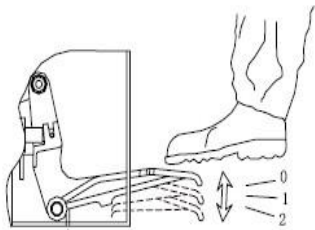
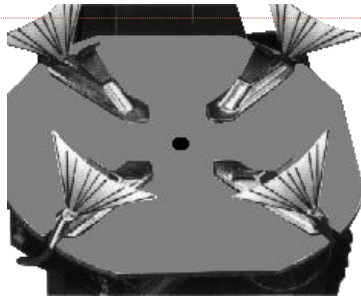

Fig 34
Fig 35
- a. Press Rapid Tire Inflation Pedal to the middle position (Fig 34, position 1), the inflating head should give air.
- b. Press Rapid Tire Inflation Pedal all the way down (Fig 34, position 2), a strong air blast should come from the holes in the four jaws' locking sliders. (Fig 35)